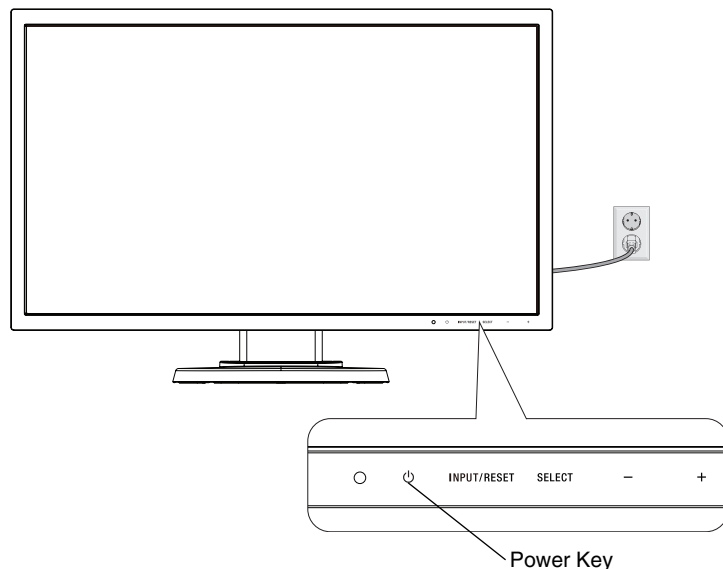

Figure E.1
- Turn on the computer and the monitor by touching the power key on the front bezel (**Figure E.1**).